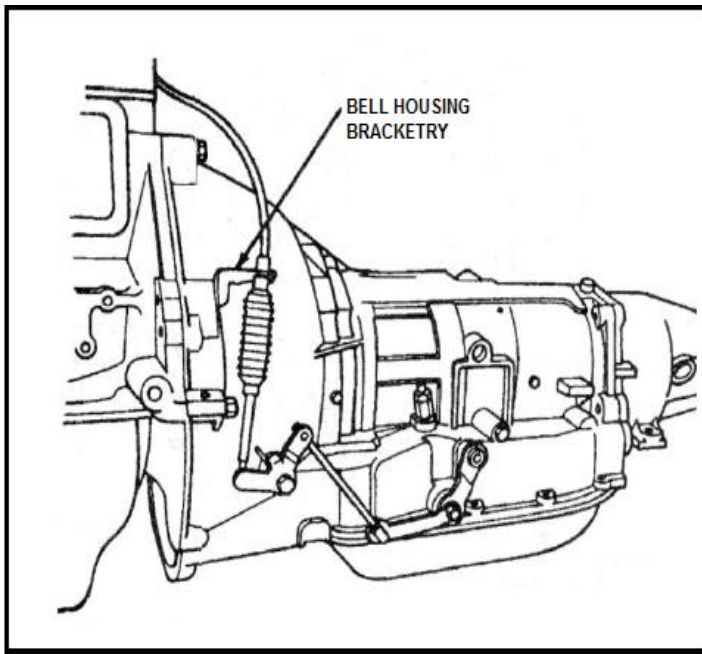

FIGURE 9
The throttle valve (TV) control cable system consists of a cable attaching grommet on the throttle body throttle lever, the TV control cable assembly, the external TV control lever or the transmission, and cable mounting brackets at the throttle body and transmission. (See Figs. 9,10,11 &12.)